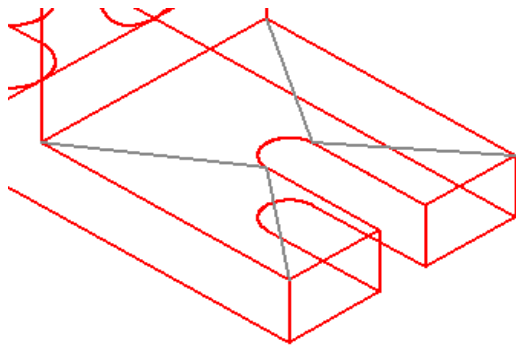

Figure Step 12
Step 12 On layer Construction, draw the construction lines on the top surface as shown in Figure Step 12. Ensure you snap to the endpoints of the lines and arcs.